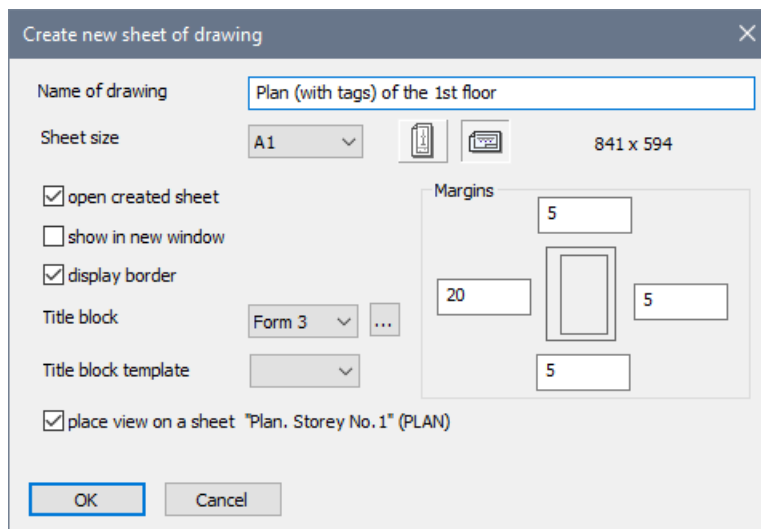

Figure 27.15. **Generate new sheet of drawing** dialog box
- ⇒ In the **Generate new sheet of drawing** dialog box (see Fig. 27.15), define the following data: